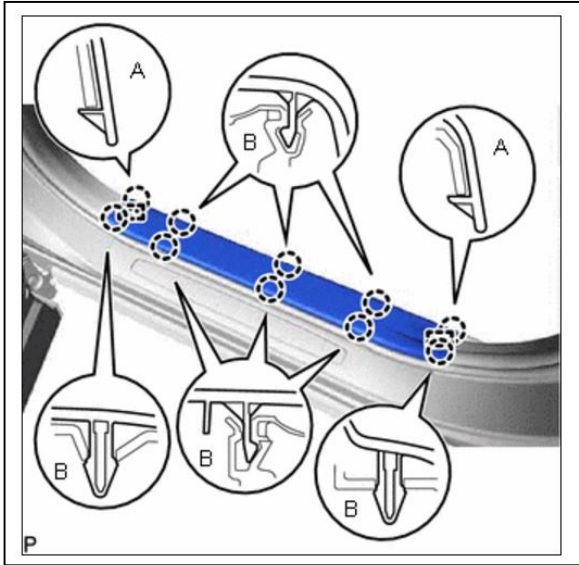

Figure 5
- a. Disengage the 2 clips (A). See Figure 5.
- b. Disengage the 8 claws (B) and 2 guides to remove the front door scuff plate. See Figure 5.